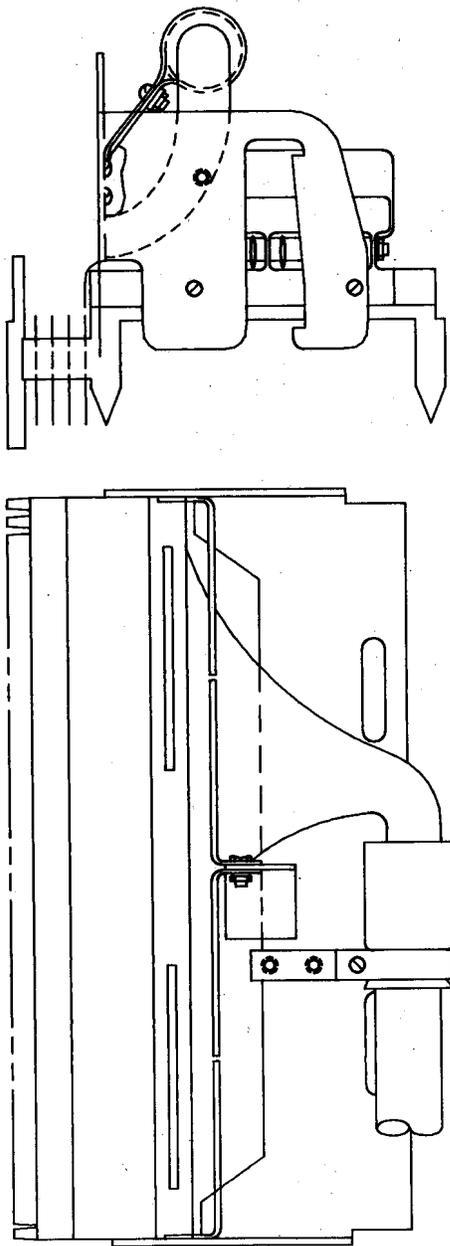

Fig. 28—309A-100 Connector
**2.20 309A1-100:** The 309A1-100 is a high density MDF connector (Fig. 28) which provides protection and cross-connect capability for 100-outside plant cable pairs in a planar front facing orientation on conventional distributing frames. The connector mounts to the left of a 309B-type connector on a vertical frame.